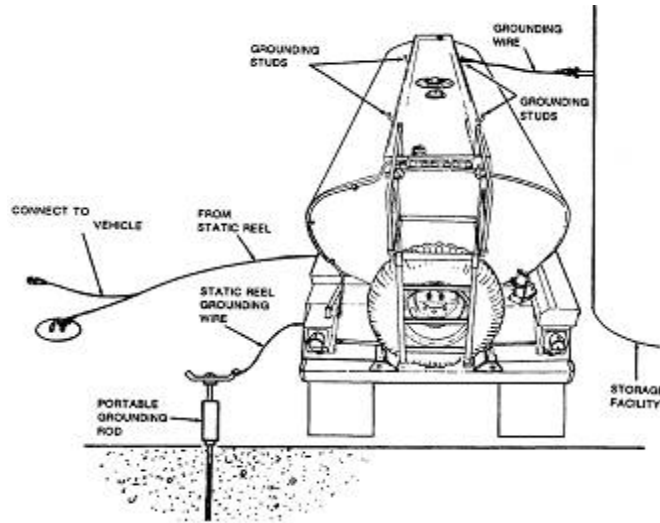

Figure 3-32.
(7) Begin the flow from the outside source.
(8) After the flow has begun, open the pre-check valve to pre-check the shutoff float. Flow should stop after about 20 to 25 seconds to indicate that the float is functional. If it is not working, stop all operations and notify higher maintenance.
(9) Close the pre-check valve. The flow will resume in about 20 seconds. Be prepared to stop the fuel supply at the loading facility in event of shut-off float malfunction, if leaks are apparent, or other unusual condition are seen.
(10) When tank is full, the flow should stop automatically. Close all valves, replace all covers, and disconnect the hoses.
(11) Drain the accumulated water in the same manner as stated in 1a(8) above for top loading.
(12) Remove the grounding wires.
(13) Stow fire extinguishers.
c. Self-loading using vehicle engine and pump (see Figure 3-32). Product is not filtered.
(1) Ensure all valves are closed.
(2) Ground and bond the vehicle.
- (3) Remove fire extinguishers and bring to point of operation.
- (4) Start the engine and pump (see item 1 as necessary).
- (5) Adjust idle speed on pump to 1,000 to 1,200 rpm.
- (6) Remove the 4-inch bulk fuel hose from the hose trough. Do this by disconnecting the spring pins and turning the hose trough bars out of the way.
- (7) Remove dust cap from the fuel outlets. Connect one end of the bulk fuel hose to the outlet and the other end to the storage facility.
- (8) Place the selector valve in the LOAD position.
- (9) Open the operator valve, fuel outlet valve, and the manifold outlet valve.
- (10) Shortly after the flow has started, open the pre-check valve to pre-check the shutoff float. After about 20 to 25 seconds, the flow should stop to let you know the float is working properly. If it is not working, stop all operations and notify higher maintenance.